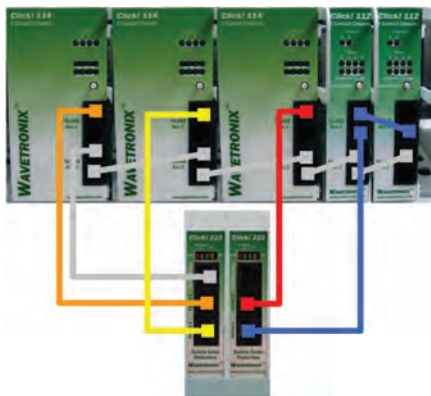

Figure 3.6 - Wiring the Click 112/114 Rack Cards
- 3 Connect a 6-ft. (1.8-m) patch cord from the Click 222 RS-485 A port to a bus 1 port on the appropriate rack card (see Figure 3.6).